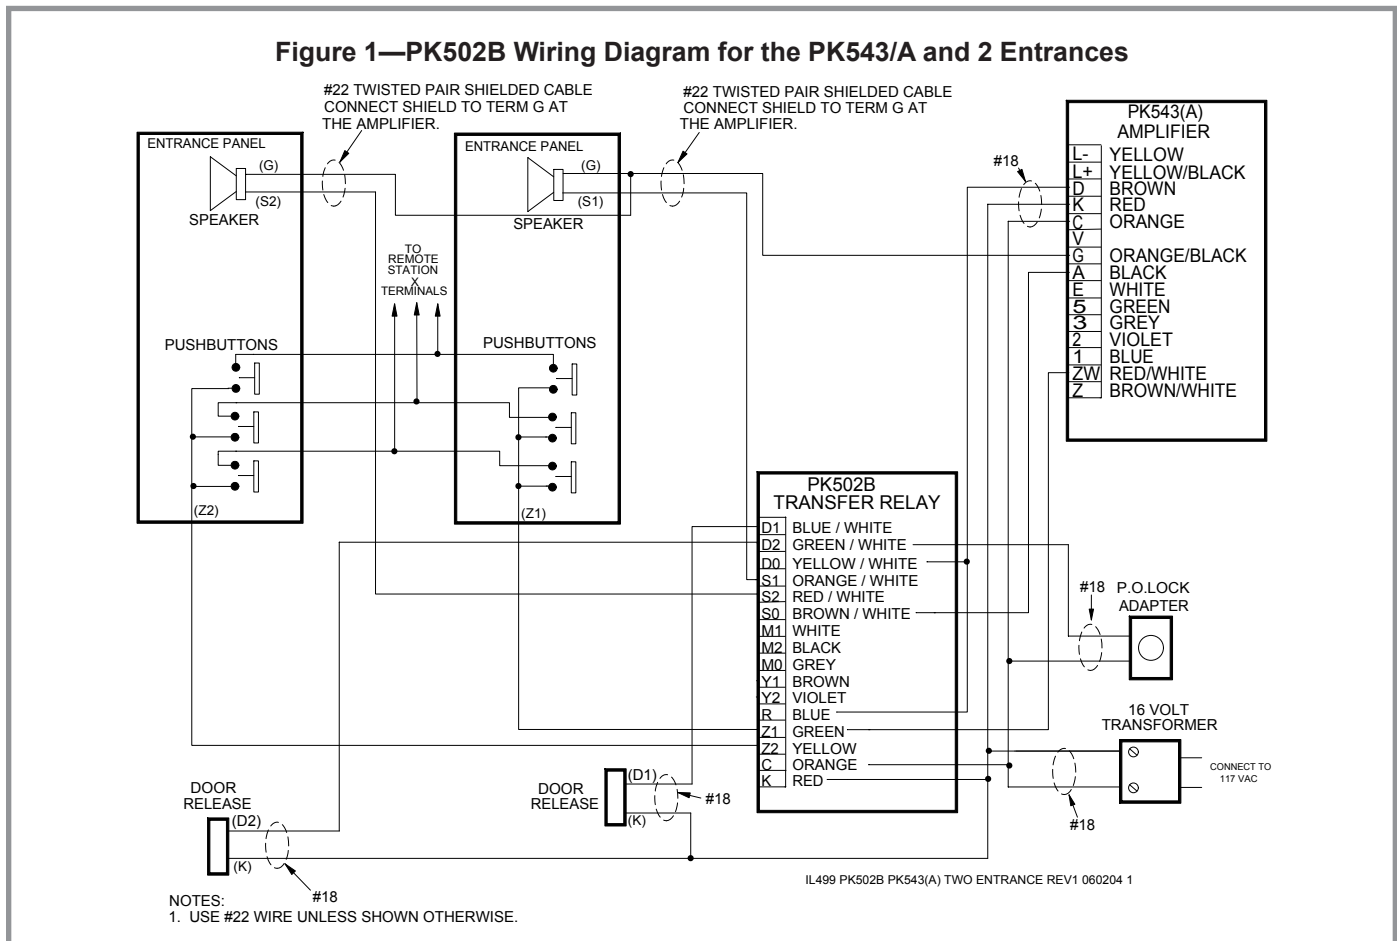

Figure 2—PK502B Wiring Diagram for the PK543/A and 3 to 8 Entrances
1. The first PK502B will support two entrances; each additional PK502B will support one additional entrance. For example, a three-entrance system will have two PK502Bs. See *Figure 2* for an example with additional entrances.
1. Make connections as shown on the wiring diagram for the amplifier being used. (For PK543/A amplifier, refer to *Figure 1, Figure 2 and Figure 3*. For PK205 amplifier, refer to *Figure 4 and Figure 5*.) If more than two PK502Bs are used, break the connections going from the PK502Bs outside the dashed lines to the amplifier and insert the wiring shown inside the dashed lines for any additional PK502Bs.